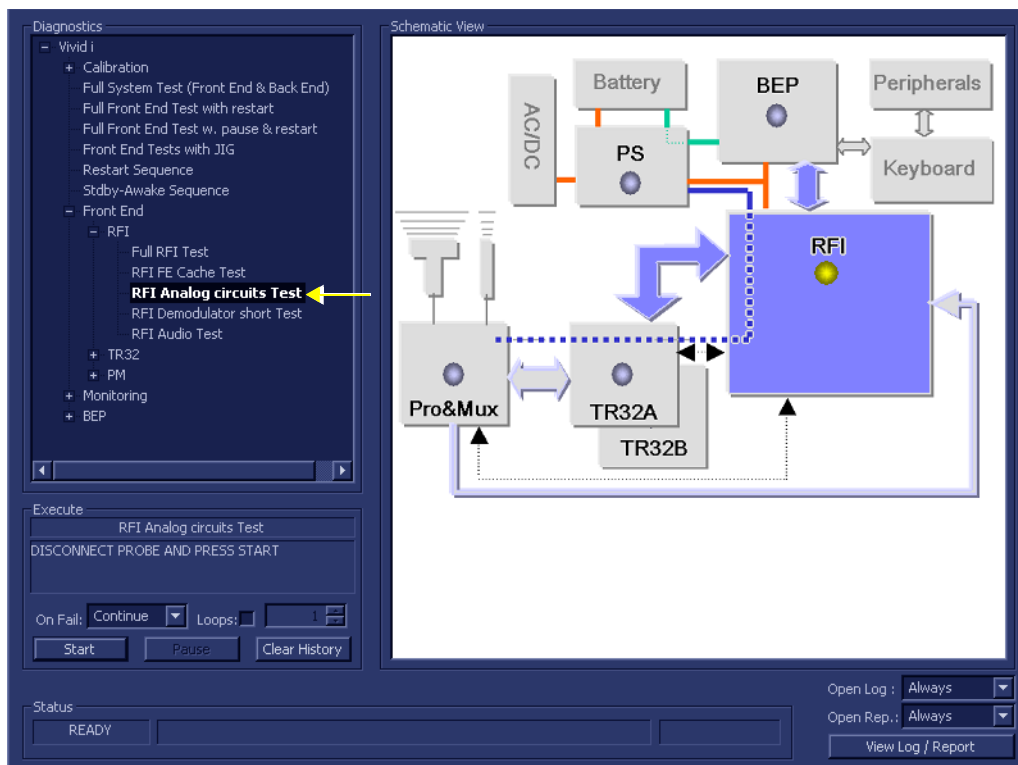

Figure 7-15 RFI Analog Circuits Test
- 1.) In the *Diagnostic Test* window, trackball to **RFI Analog Circuits Test** in the list of *RFI* tests available for selection from the Diagnostic Test Tree (see Figure 7-15 below) and press **Set**. The RFI Analog Circuits Test name is displayed under *Execute*; the relevant system component to be tested are highlighted light blue in the Schematic View (RFI), as shown below: